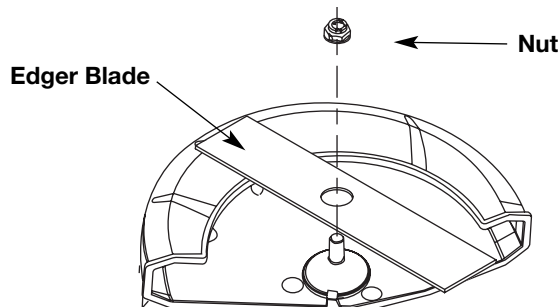

Fig. 16
- Install the new blade and nut (Fig. 16).